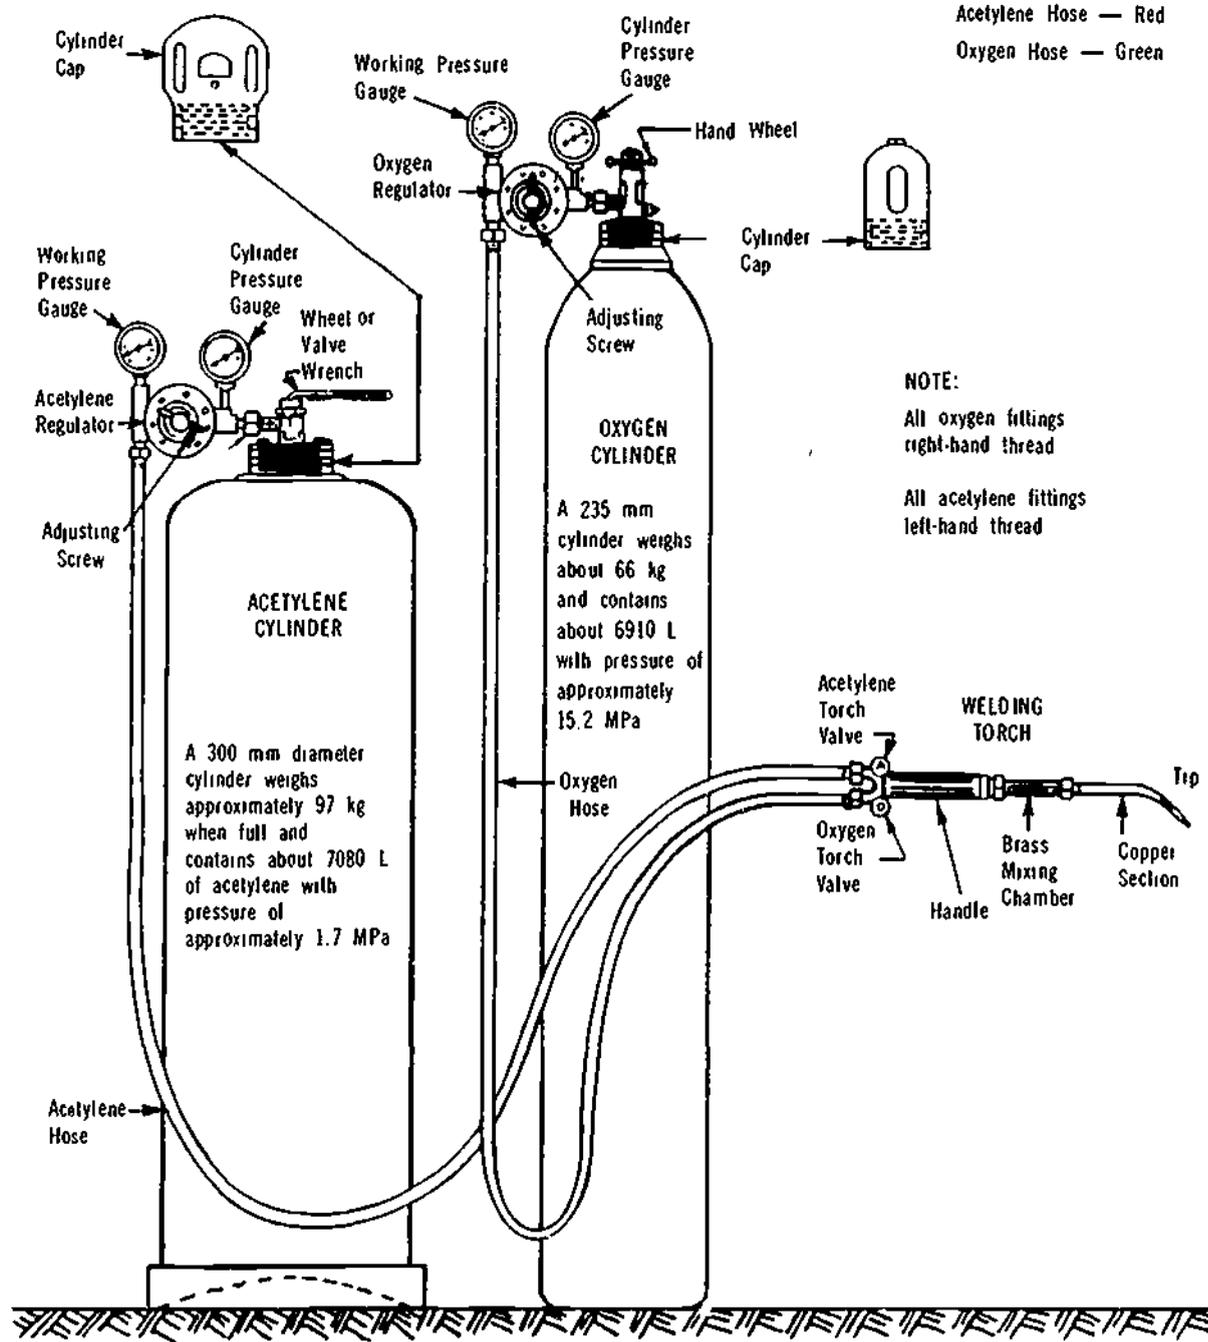

Figure 18-1. Typical Oxyacetylene Outfit
Figure 18-1 depicts a typical oxyacetylene welding set-up:
Note the following components of a welding set-up in Figure 18-1:
- b) A typical welding torch of the type discussed here is seen in Figure 18-1, where the basic components are shown as the acetylene torch valve, the oxygen torch valve, the handle, the brass mixing chamber, and the tip.